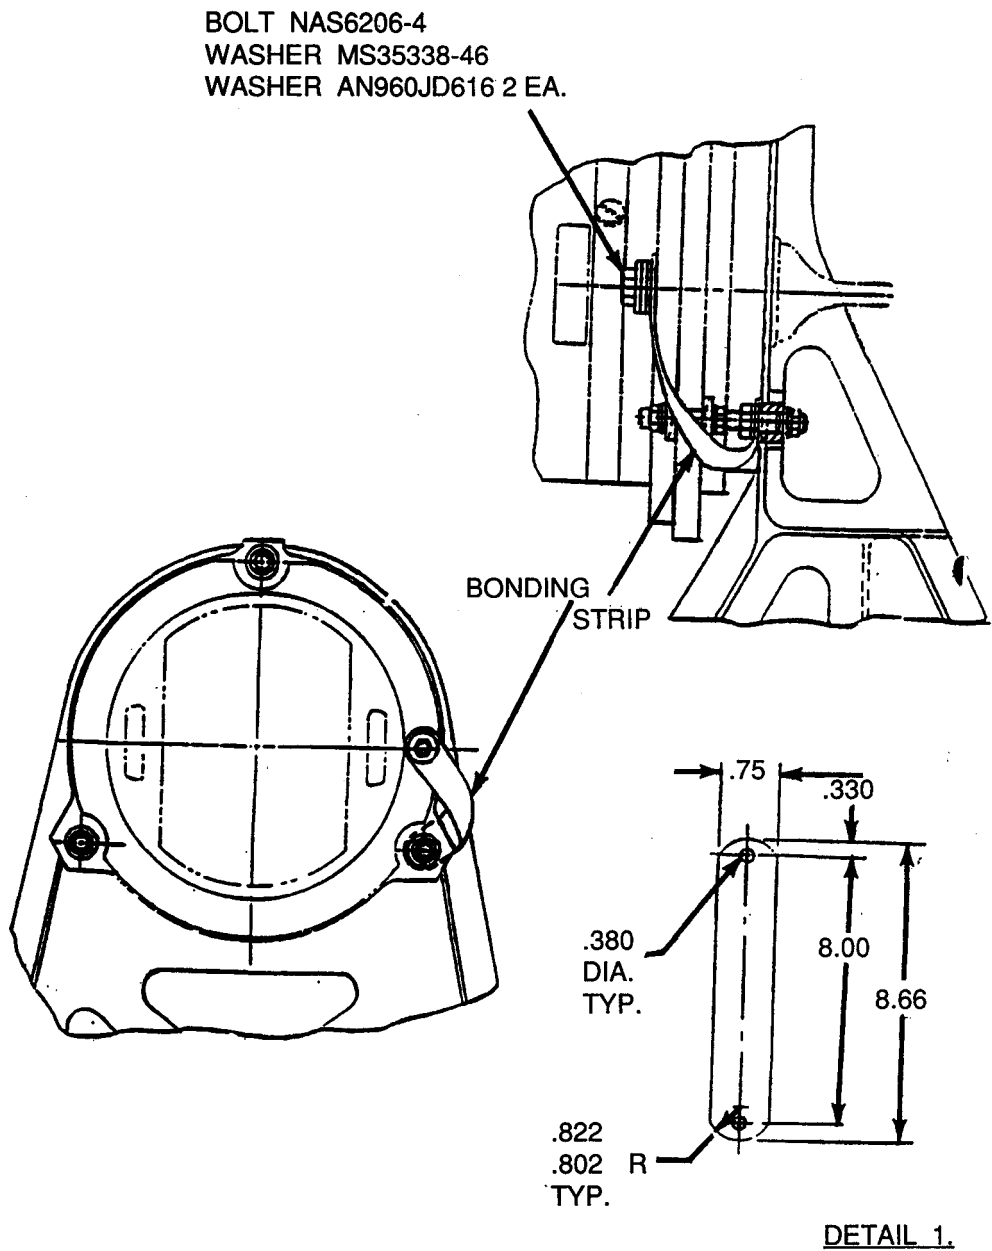

Figure 5. Electrical Bonding.
(1) If BHTI Bonding Strip, P/N 120-175-EE08 is not available, then locally manufacture a bonding strip from 6061-T4 Aluminum Alloy per QQ-A-250/11 with Chem Film per MIL-C-5541 Class 3 in accordance with Figure 5.
(2) Install Bonding Strip in accordance with Figure 5.